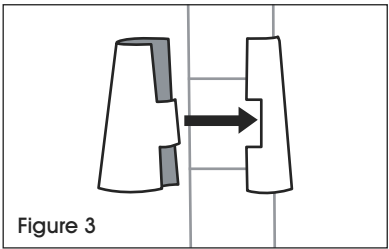

Figure 3
1. Start with the lowest shelf. Snap the interlocking pieces of a shelf support (wide end down) around the post at the lowest groove where shelf is to be located. Slide the support up or down until it snaps onto the groove. Add a shelf support to the same place on the remaining posts. (See Figure 3)